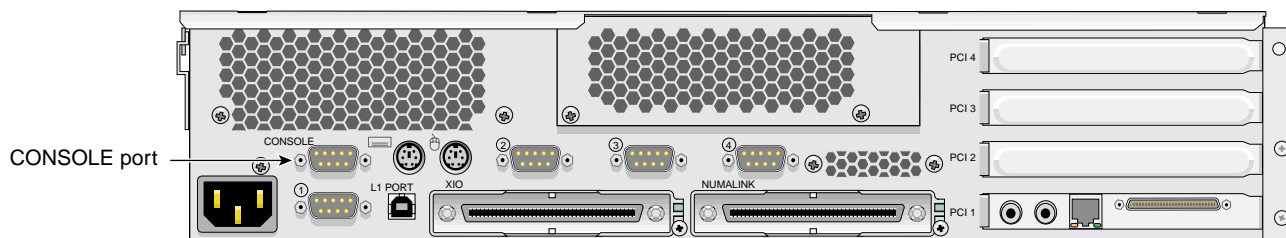

Figure 1-30 Location of the Console Port
To attach a PC to your server system, connect a null modem serial cable between the PC and the CONSOLE port of the base compute module of your server system (see Figure 1-30). To establish a connection between your server system and the system console (PC), follow these steps: